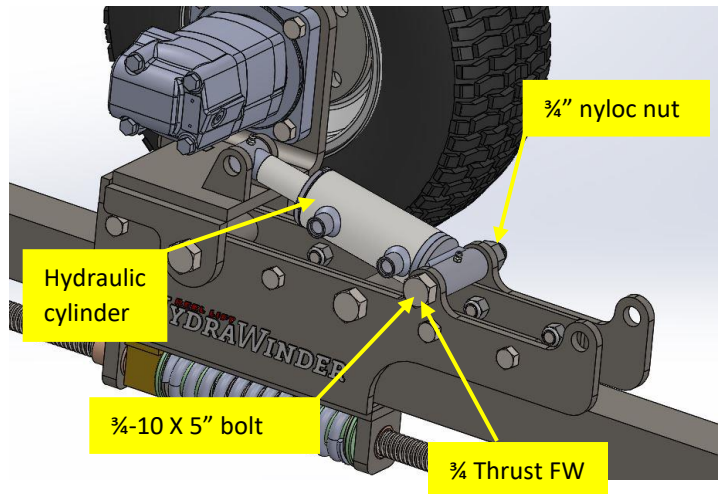

Figure 16
15. Place the hydraulic cylinder (**ITEM 16**) with the base of the cylinder between the two mounting holes of the **HydraWinder** with the grease zerks of the cylinder facing up and the fitting ports facing towards the outside of the vehicle. Thread the $\frac{3}{4}$ -10 X 5" bolt (**ITEM 26**) through holes and cylinder with the head of the bolt toward the outside of the vehicle. Thread a $\frac{3}{4}$ " nyloc nut (**ITEM 20**) onto the bolt but do not tighten until the rod end of the cylinder is mounted. **Figure 16**